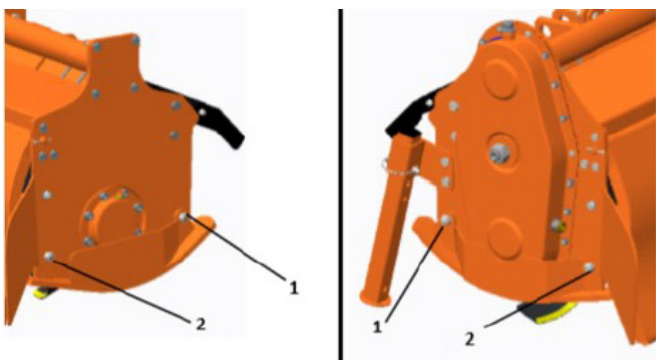

Figure 7
- Loosen the bolts in the front of the skid (Item 1) [Figure 7].
- Unscrew and remove the bolt on the rear of the skid (Item 2) [Figure 7].